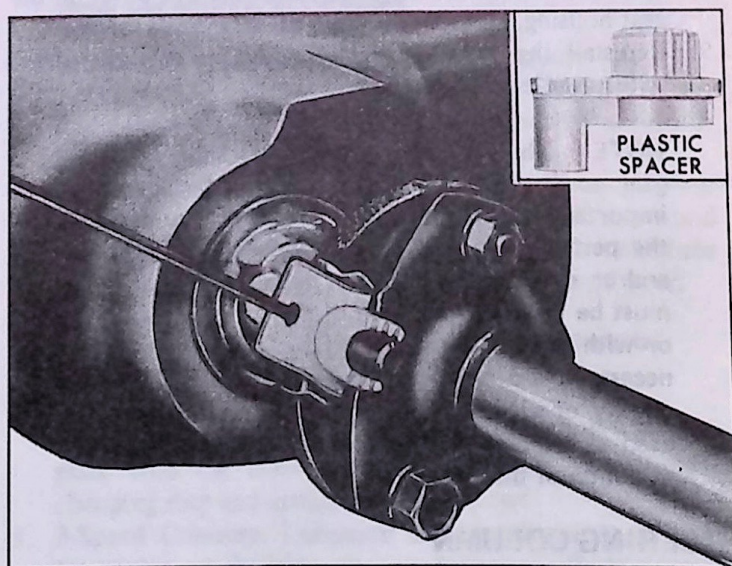

Fig. 9—Removal of Alignment Pin Spacers
NOTE: A new coupling incorporates plastic spacers on the alignment pins which aid in centering the pins in the flange openings and also serve to maintain the correct coupling to flange dimension (fig. 9). Be sure the spacers are fully installed on the pins.
6. Fashion a hook of heavy gauge wire and pull the plastic spacers away from the locking pins (fig. 9).